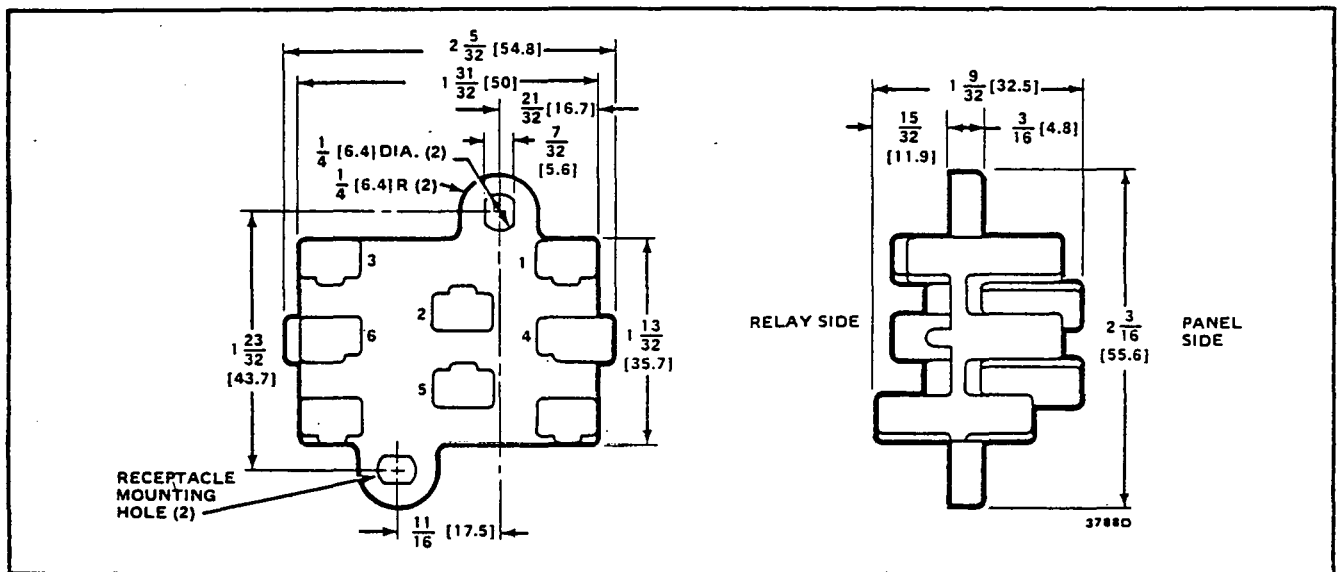

FIG. 2-DIMENSIONS OF WIRING RECEPTACLE.
2. 4074BVJ Receptacle with 8 color-coded plug-in leadwires and retaining bail, for panel mounting applications; see Fig. 2.